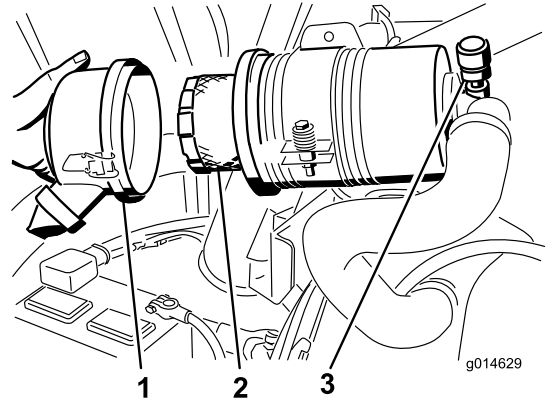

Figure 74
3. Remove and replace the filter (Figure 74).